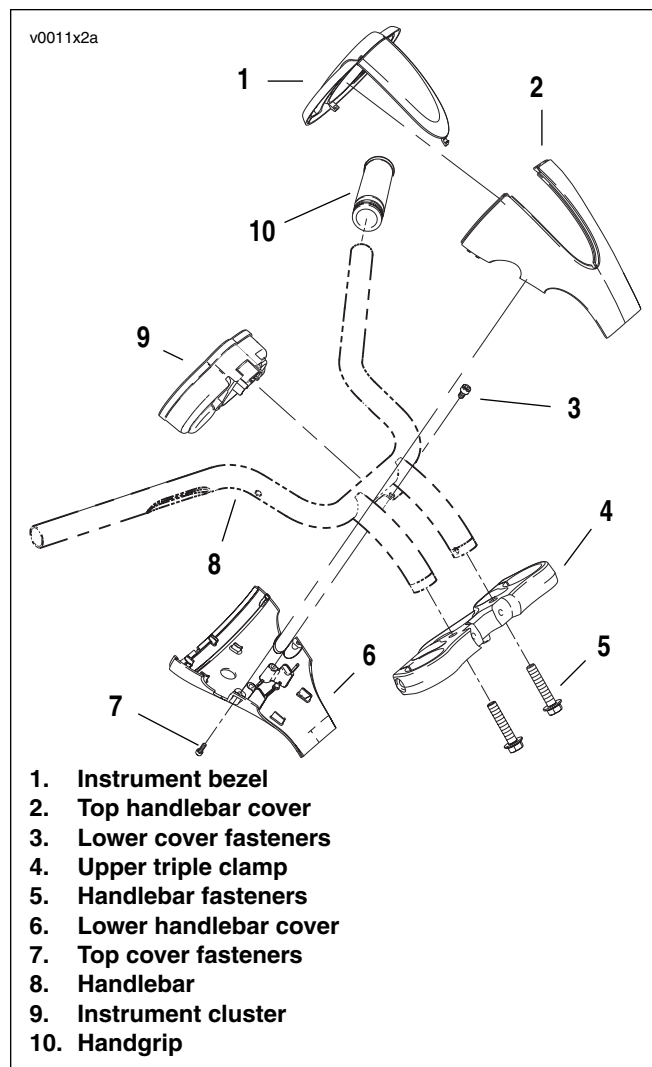

Figure 2-68. Handlebar Assembly
11. See Figure 2-68. Without removing cover, remove fasteners (7) holding top handlebar cover (2) and instrument bezel (1) to lower handlebar cover (6).
See Figure 2-68. Snap and hook at bottom of bezel holding top cover to lower handlebar cover can be damaged if forced during removal or installation.
1. See Figure 2-68. Mount handlebars (8) on upper triple clamp (4). Tighten handlebar fasteners (5) to 41-47 Nm (31-35 ft-lbs).
2. Mount lower handlebar cover (6) to handlebar (8). Tighten fasteners (3) to 6-10 Nm (53-88 in-lbs).
3. Mount instrument cluster (9). Connect wiring harness to instrument cluster.